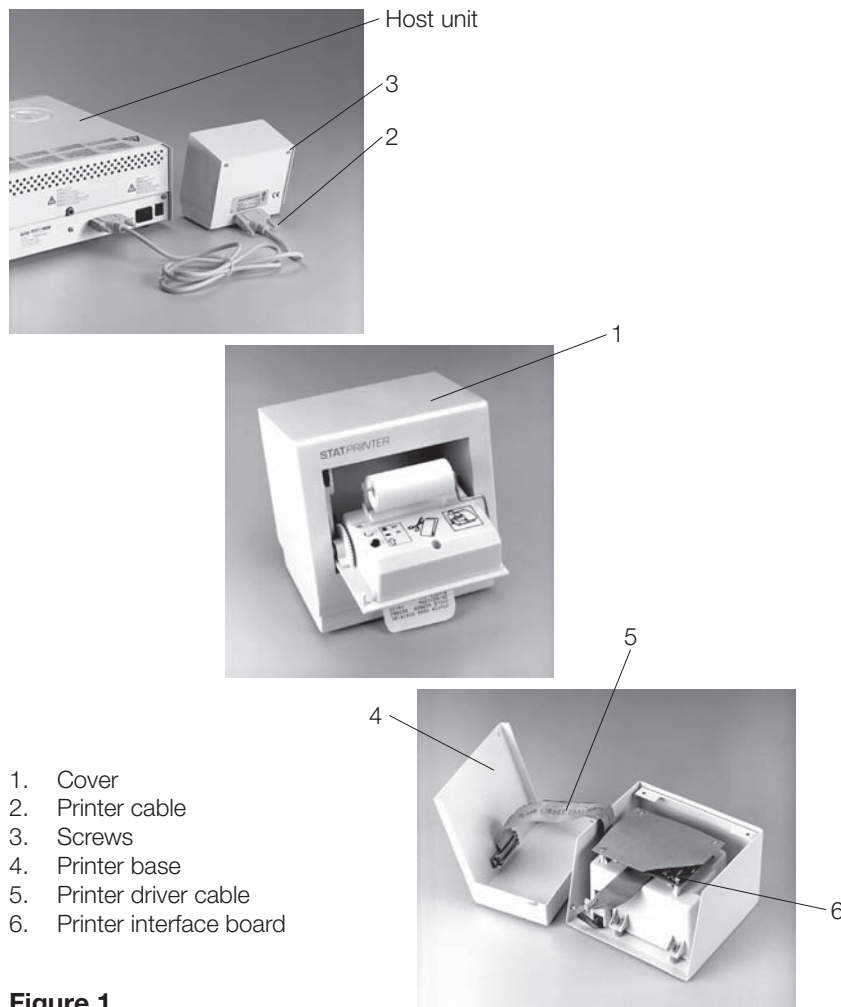

Figure 1
To remove the STATprinter cover (1), proceed as follows, (see Figure 1):
To replace the STATprinter cover, follow these steps, (see Figure 1):